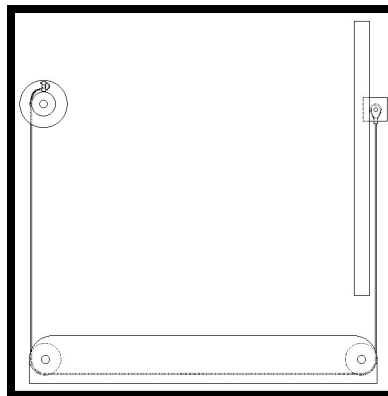

Figure 7
2. Attach thimble end of Stainless Cable to Cable Mounting plate on Handrail (L) using hardware provided in Kit #4.
5. Torque cable clamp. Pay attention to not over torque and break Winch. See Figure 7.